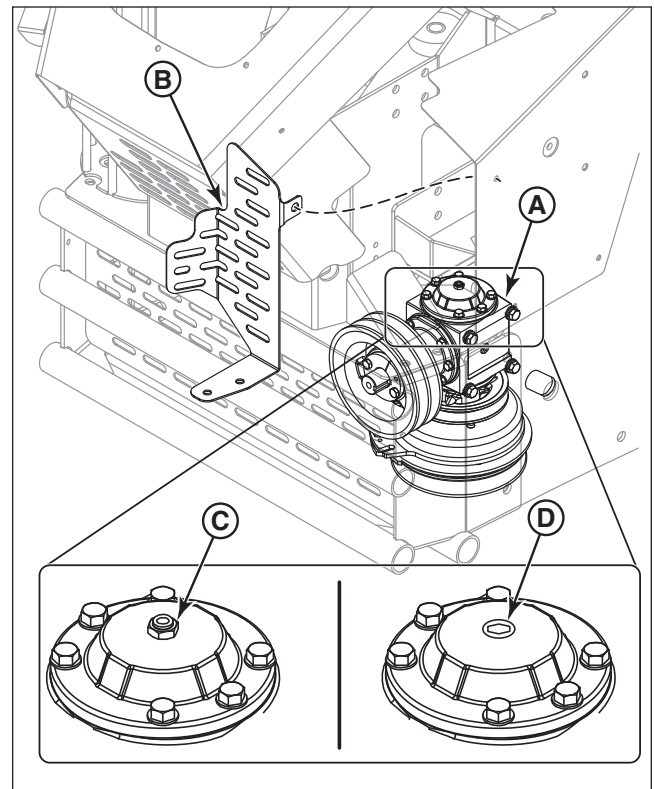

Figure 1. Inspecting the Gearbox
3. Observe the top of the gearbox (**A, Figure 1**). If the unit was shipped outside of the United States it is equipped with an additional flywheel guard (**B**). The top of the gearbox can be viewed by looking through the slots of the flywheel guard or if necessary the flywheel guard can be temporarily removed.